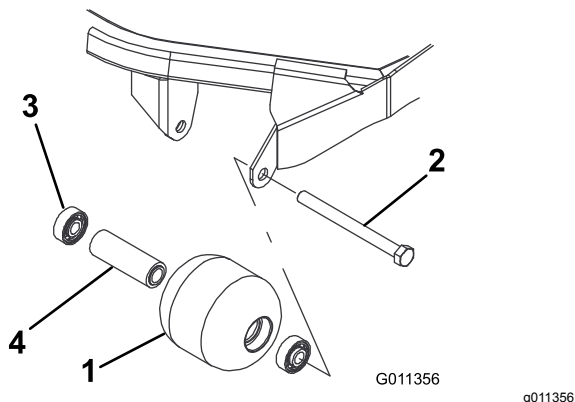

Figure 121
1. Remove the roller-mounting bolt (Figure 121).
1. Press the first bearing into the roller housing (Figure 121). Press on the outer race only or equally on the inner and outer race.
2. Insert the spacer (Figure 121).
3. Press the second bearing into the roller housing (Figure 121). Pressing equally on the inner and outer race until the inner race contacts the spacer.
4. Inspect the roller housing, bearings, and bearing spacer for damage (Figure 121). Replace any damaged components and assemble them.